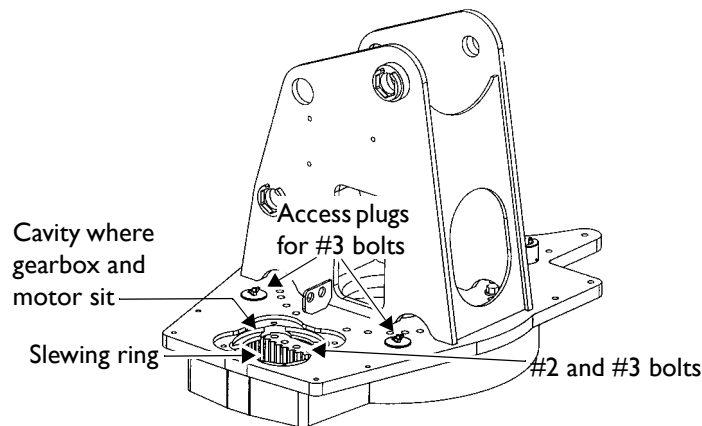

Figure 26
4. Unscrew both access plugs, located on either side of the gear box (see *Figure 26*, below).